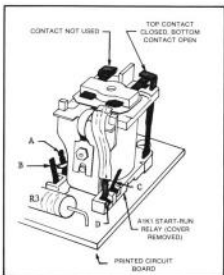

FIGURE 5-10. START-RUN RELAY A1K1 (SPEC D)
- Take out the printed circuit board and remove the cover from the Start-Run relay A'K¹ (marked "K" on board). See Figure 5-10 for references during tests.
— With the VOM set at x10, measure resistance between A and B — should be approximately 34 ohms. Resistance between A and C or B and C should be approximately 650 ohms (x100 scale). As shown in Figure 5-10, the top 'K' contact should be closed, the bottom contact open. There should be continuity between the top contact and point D.